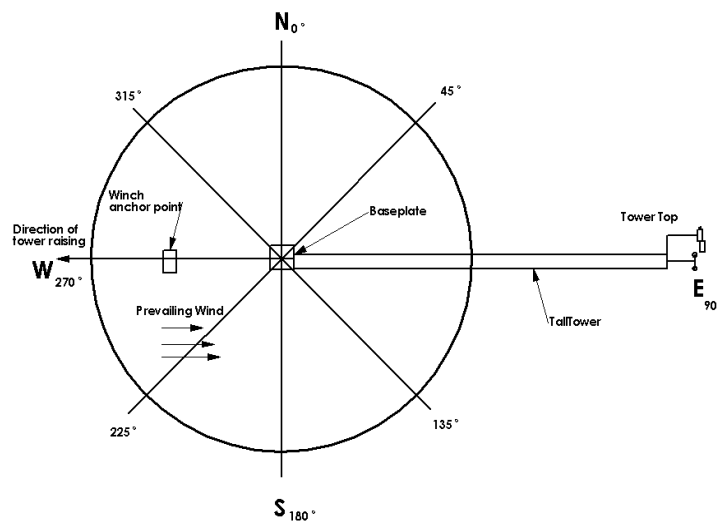

Figure 2
2. Stand so that it is possible to sight along the tower from the top to the base. Align the bearing mark on the compass so that it points directly in line with the tower, top to base. The bearing of the TallTower in the example in Figure 2 is 270 degrees.